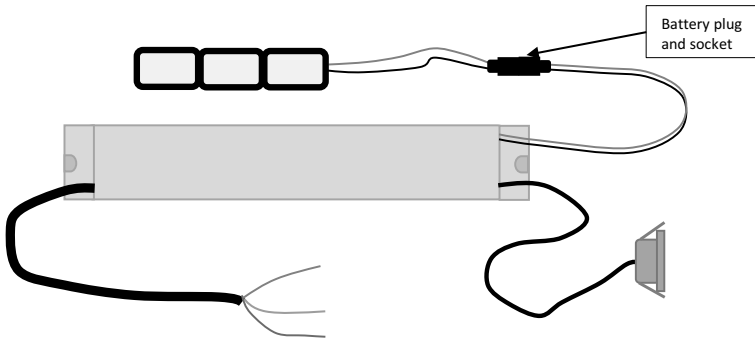

Fig 3
- Connect the battery to the inverter (see Fig 3)